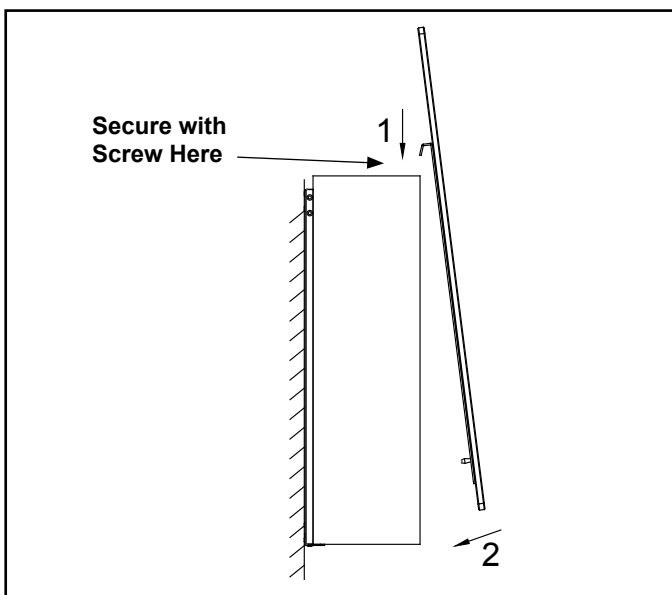

Figure 4.5 Attaching Fireplace to Bracket
1. Install glass front as shown in Figure 4.5. Engage tabs on rear face of glass with the slots in the top of the appliance. Once both tabs engage, press firmly against the bottom face of the glass panel to engage the bottom connectors.
2. Secure the glass front to the appliance with two provided M4x8 screw through the two glass front mounting brackets on the top of the appliance. See Figure 4.5.